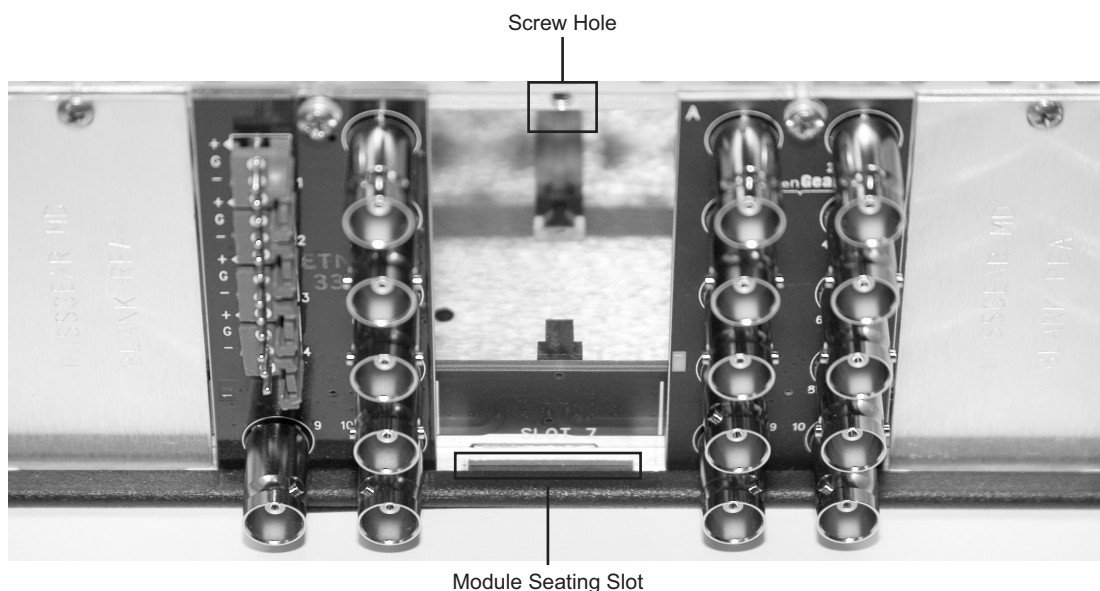

Figure 2.1 Rear Module Installation in a DFR-8310 Series Frame (DMX-8259 not shown)
3. Install the bottom of the Rear Module in the **Module Seating Slot** at the base of the frame’s back plane. (**Figure 2.1**)